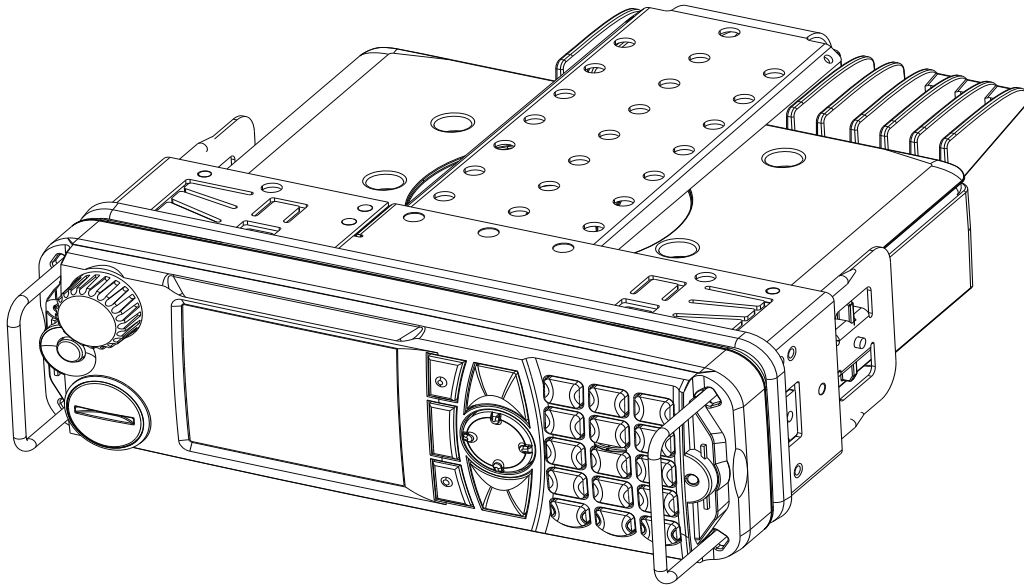

Figure 8 Removing the Radio from the Frame
2. Insert the demount tool into the two openings as shown in Figure 8 below.